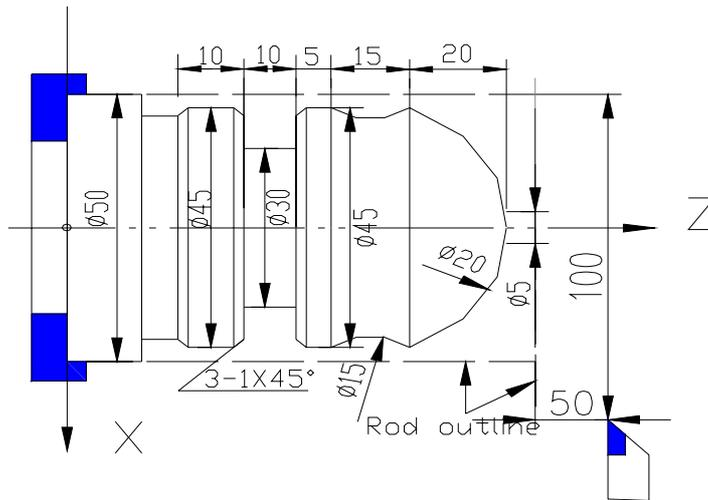

Fig. 37 Machining drawing
**Example 5: Fig. 37.** Rod:  $\Phi 50 \times 100$ . Machining with 3 tools: No.1: outer turning tool; No.2: pointed tool; No.3: grooving tool with 3mm width.